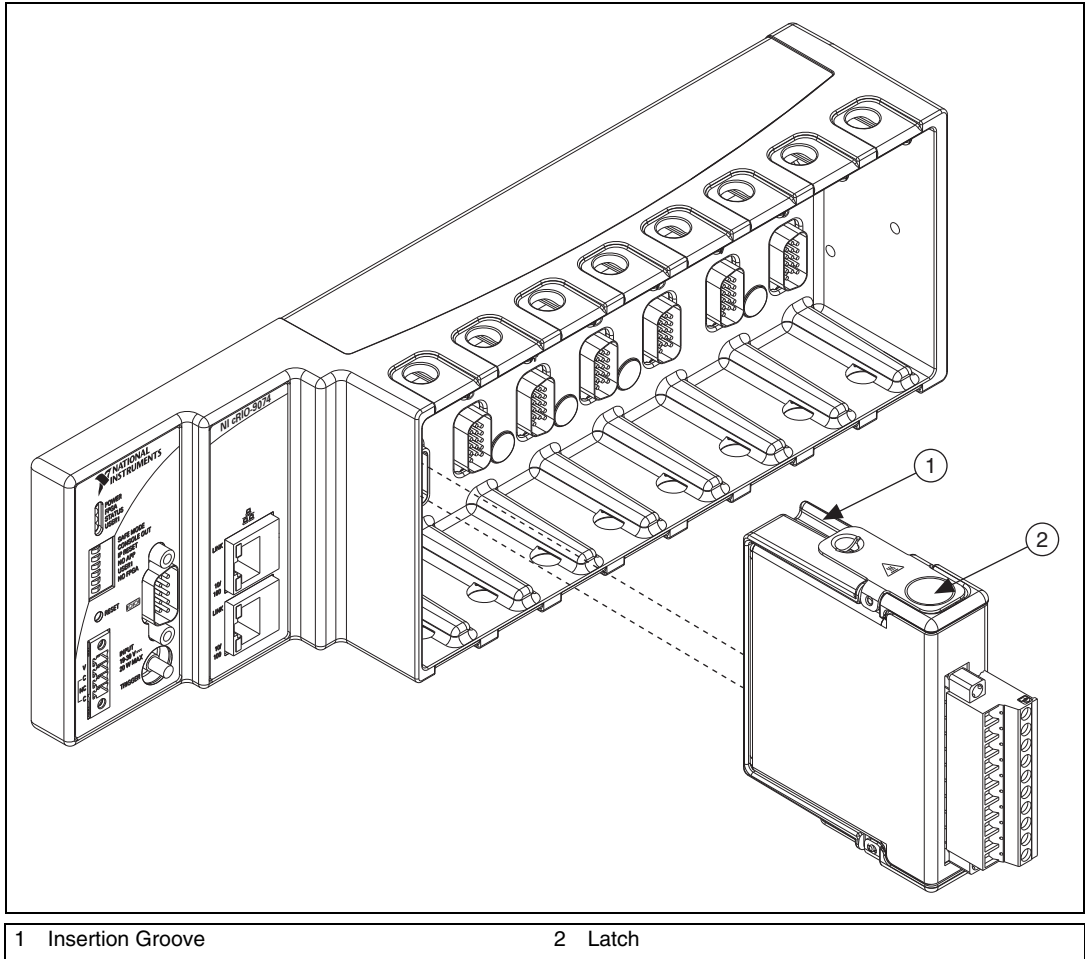

Figure 10. Installing an I/O Module in the Chassis
2. Align the I/O module with an I/O module slot in the chassis as shown in Figure 10. The module slots are labeled 1 to 8, left to right.